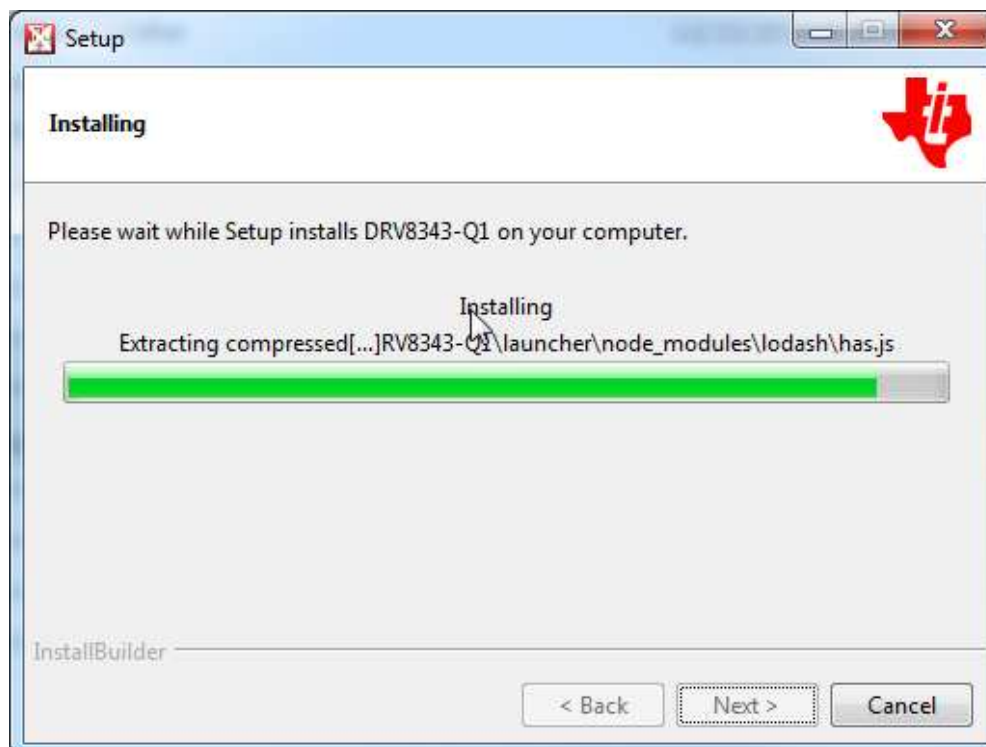

Figure 31. Installing the GUI
Step 6. Click the Yes button in the new window to create a shortcut on the desktop if desired. The GUI then starts the installation (see Figure 31).